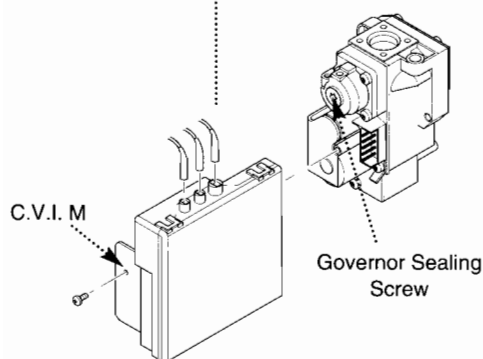

Fig. 38a
3. Remove the governor sealing screw (Fig. 38a).